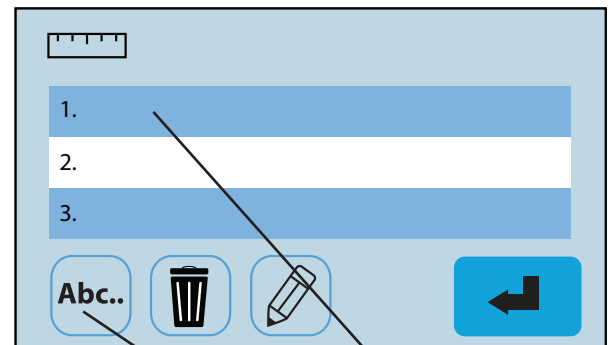

Fig. 14
- Select the job number the fold will be saved as by touching the screen (Fig. 14). Press the letter icon  to bring up the keypad to name the custom fold.